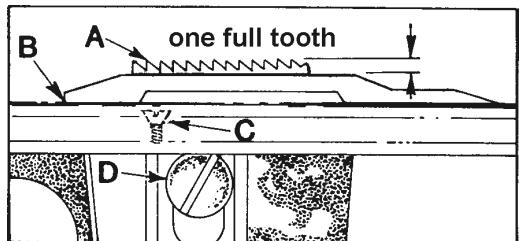

Fig. 10
Feed dog (A, Fig. 10) should be centered in throat plate (B) with equal clearance on all sides and ends with feed travel set to desired stitch length. At highest point of travel, tips of feed dog teeth should extend the depth of one full tooth $+1/32$ inch, above throat plate and parallel to same. Loosen screw (D), which secures feed dog in position, and adjust screw (C) up or down to support feed dog. Retighten screw (D).